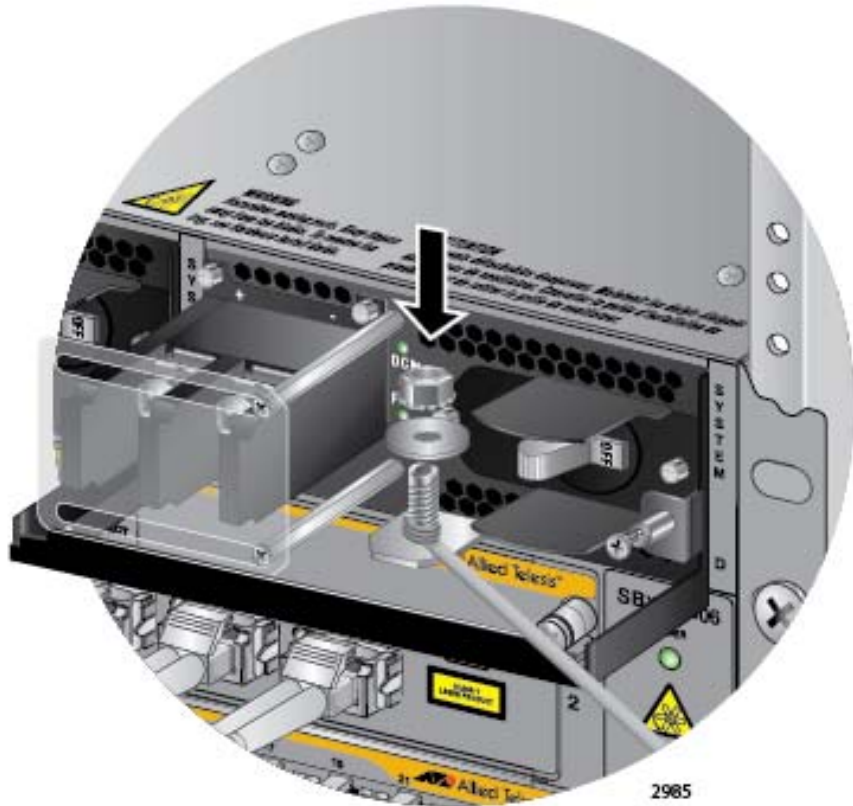

Figure 130. Securing the Bare Grounding Wire to the Grounding Post
4. Secure the wire with the nut and washer removed in step 2, and an 8 mm wrench, as shown in Figure 130.